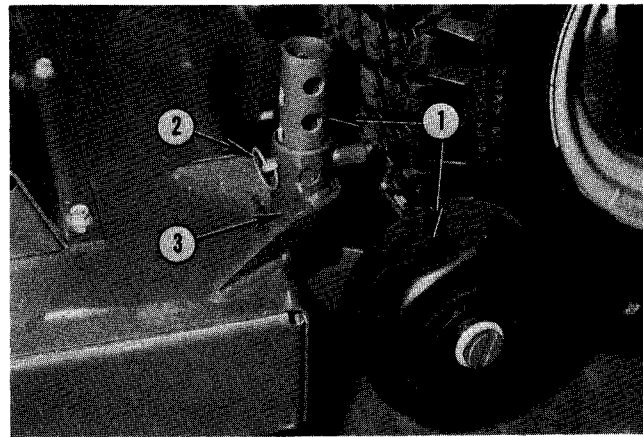

Fig. 42 — Gauge Wheel Installation
4. Install gauge wheels as shown in Figure 42.